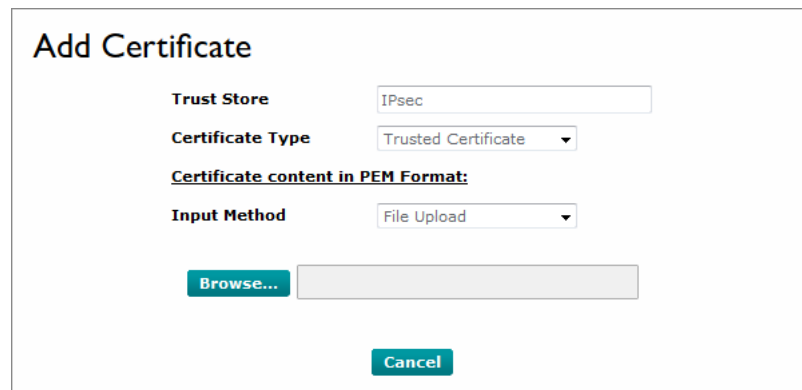

Figure 3-17 WBM: “Certificate Authentication” page, “TrustStores” tab, “Add Certificate” dialog, File Upload
- ⇒ The “Add Certificate” dialog opens (Figure 3-17).